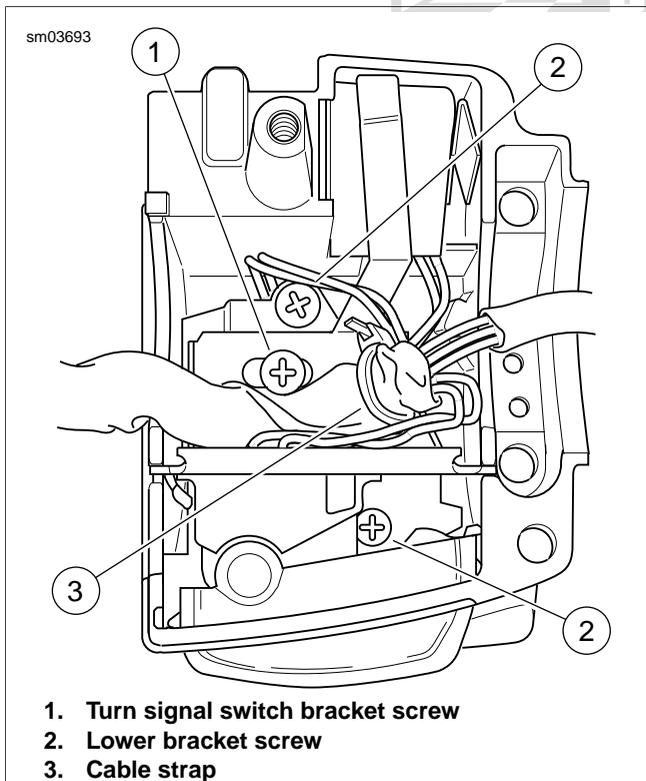

Figure 8-134. Lower Right Handlebar Switch Housing (Without Splices) - Classic/Ultra Models
2. Remove two lower bracket screws. Pull bracket and switch from switch housing. See Figure 8-134.